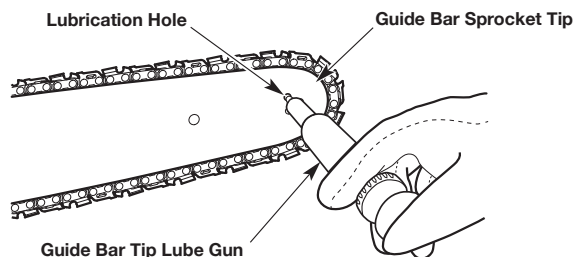

Fig. 40
1. Clean the guide bar sprocket tip thoroughly with a damp cloth (Fig. 40).
2. Use a guide bar tip lube gun (not included) to inject grease into the lubrication hole (Fig. 40). Inject grease until it appears on the outer edge of the guide bar sprocket tip.